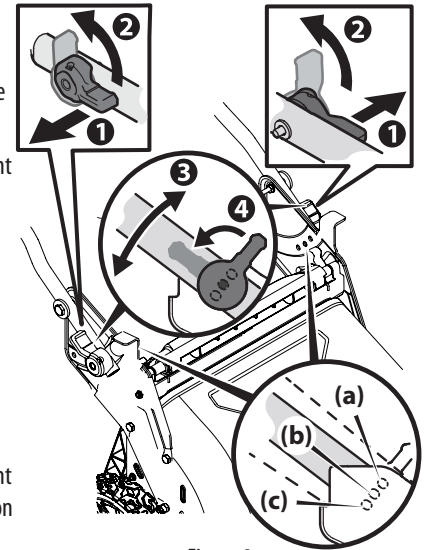

Figure 8
1. Turn the handle adjustment levers to the unlocked position to lift the handle. See Figure 8.